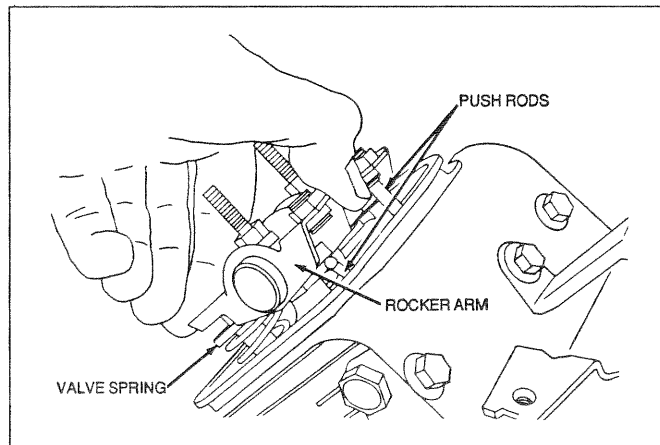

Figure 84. Releasing Spring Pressure
- Refer to Figure 84. Release spring pressure from rocker arms by rocking the spring against spring pressure and permitting the push rod to drop out of the arm socket. The push rod will move out of alignment so that, when the arm is released, spring pressure is released from the arm.